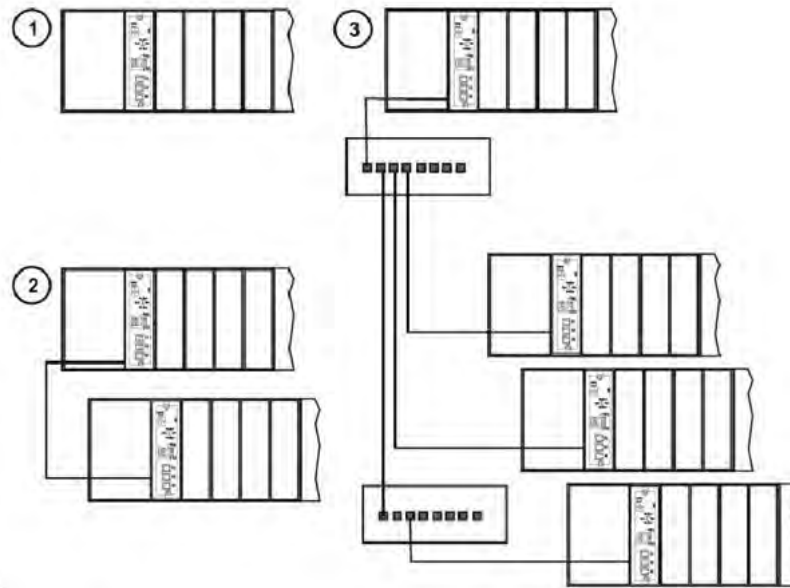

Figure 18 – HC900 Controller Configurations
Examples of HC900 Controller I/O expansion configurations are shown in Figure 18.
- In Figure 18, any of the racks shown in each controller configuration can be 4-, 8- or 12-slot versions. Redundant I/O power not available with 4-slot.